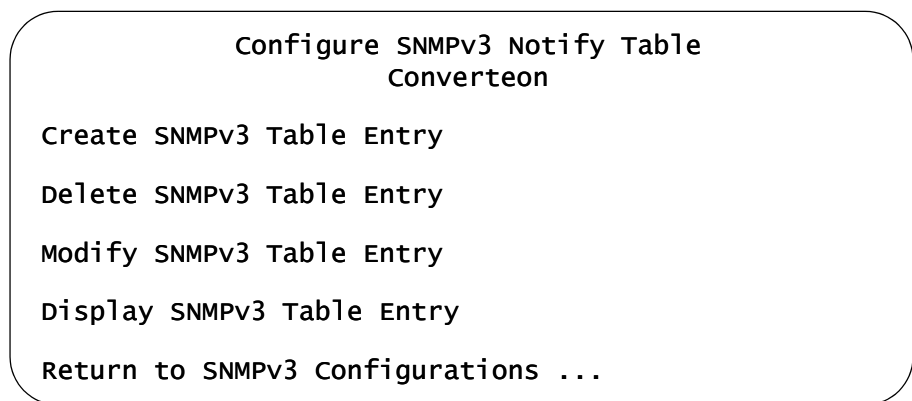

Figure 119. Configure SNMPv3 Notify Table Menu
- From the Main Menu, select **Configuration -> System Configuration -> SNMPv3 Configurations -> Configure SNMPv3 Notify Table**. The Configure SNMPv3 Notify Table menu is shown in Figure 119.